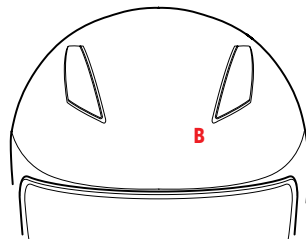

FIGURE 5
FRONT AIR INTAKE UPPER – B – Figure 5/6
- Figure 5: air intake closed.